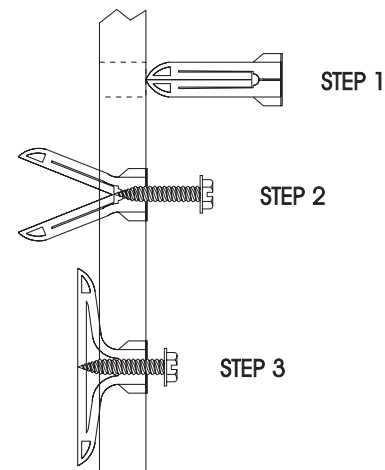

Figure 4
8. With the base flush against wall, level side cover assembly, left and right and secure inside back flanges of side cover assembly to the wall with six (6) #10 x 1" hex-head screws or six plastic anchors provided (See **Figure 4**). It is optional to secure base to floor; two (2) 10 x 1" hex-head screws are provided.
4. Attach side cover uppers to side cover assembly, left and right with four (4) 8 x 3/8" Phillips screws.
5. Attach side cover uppers to wall with four (4) 10 x 1" screws and four (4) plastic anchors (See Figure 4).
4. Attach side cover assembly, left and right to side cover uppers with four (4) 8 x 3/8" Phillips screws.